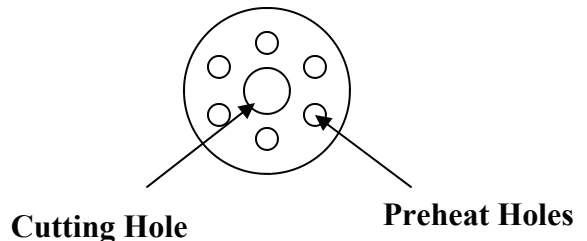

Figure 4
2. Develop a neutral flame at the preheat holes (Figure 4) that results in a cone about 1/8th inch long. This is accomplished by alternately increasing the flow of acetylene and then oxygen.